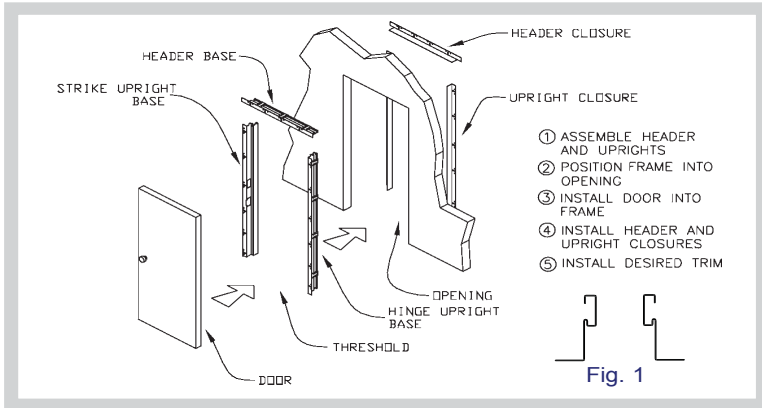
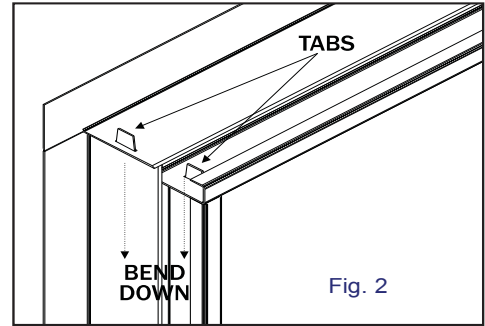

Fig. 1
Fig. 2
- 2** Assemble base side of frame (which consists of hinge jamb, strike jamb, and header) by placing the face or nailing flange face down on a flat surface (Fig. 1). Insert tabs which are located on the ends of the jambs into the slots in the header. Bend tabs outward and down to secure tight fit between the jambs and header (Fig. 2). Stand frame upright and place into rough opening. **Note:** If using threshold, install prior to placement into rough opening.
- 4** Install door and close in frame opening using the door as a template. Adjust frame to door so that clearances between the door and the frame are equal and between 1/16" (2) and 1/8" (3). After adjusting for proper fit, secure with recommended screws.